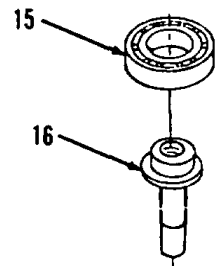
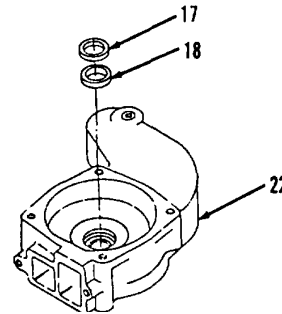
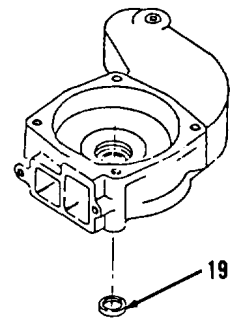

Figure 3-191.
Figure 3-192.
Figure 3-193.
15. Inspect bearing (15, Figure 3-191). Replace if cracked, broken, chipped, grooved or scored.
16. Using suitable driver and press, remove bearing (15) from shaft (16), if necessary.
17. Invert housing (22, Figure 3-192).
18. Remove and discard ring (17) and seal (18) from housing (22).
19. Using suitable driver and hammer, remove and discard seal (19, Figure 3-193).